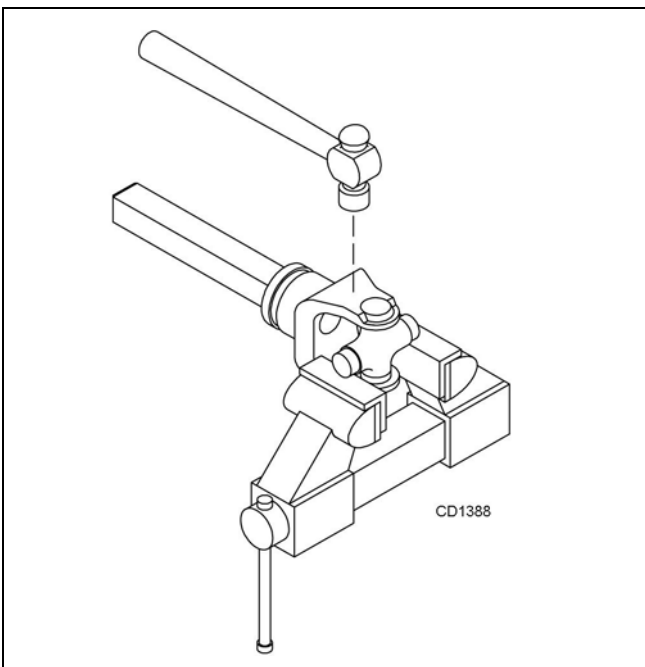

Figure 27. Remove Cups
4. Place universal cross in vise as shown in Figure 27 and tap on yoke to remove cup. Repeat Step 3 for final removal. Drive remaining cup out with a drift and hammer.